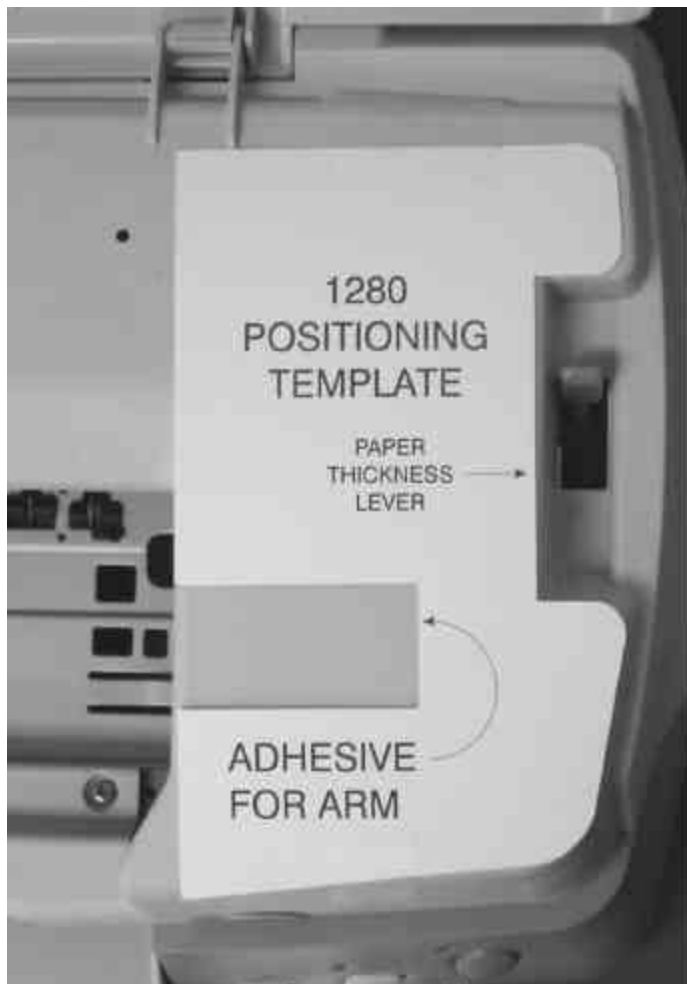

Fig. 8
5. Place the 1280 Positioning Template on the right side of the printer to determine where the 3M Dual Lock Tape should be attached. Once positioned, tape it in place. See Fig 8.